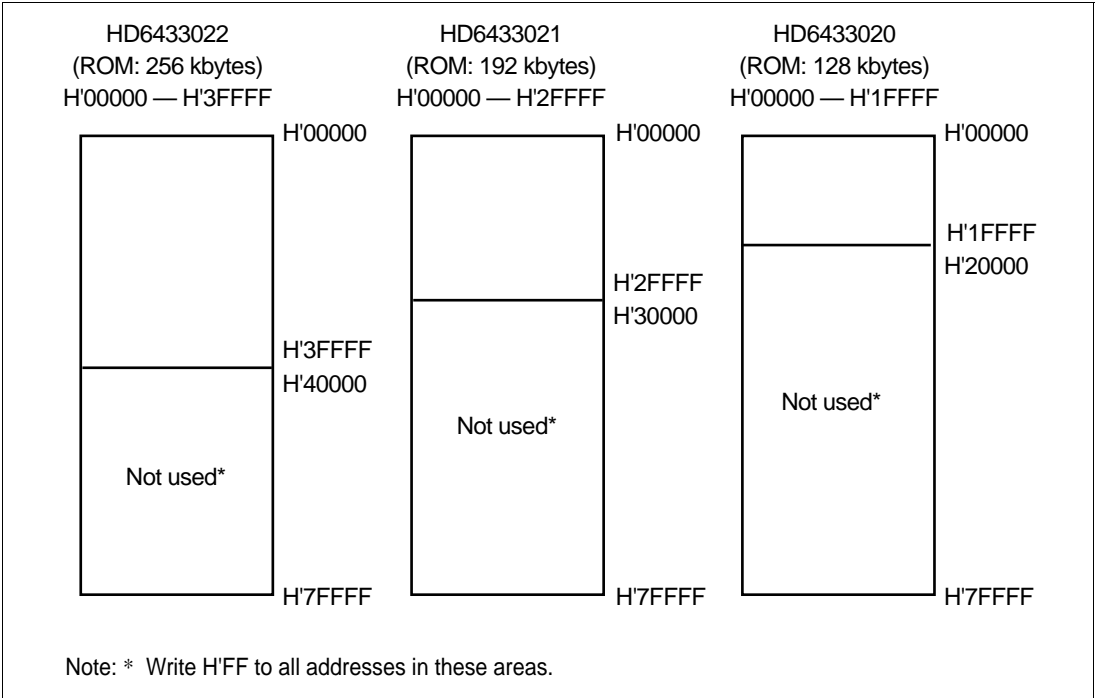

Figure 15-21 Mask ROM Addresses and Data
- 2. Fill all unused addresses with H'FF as shown in figure 15-21 to make the ROM data size the same as for the 512-kbyte version. This applies to ordering through an EPROM and through electrical data transfer.